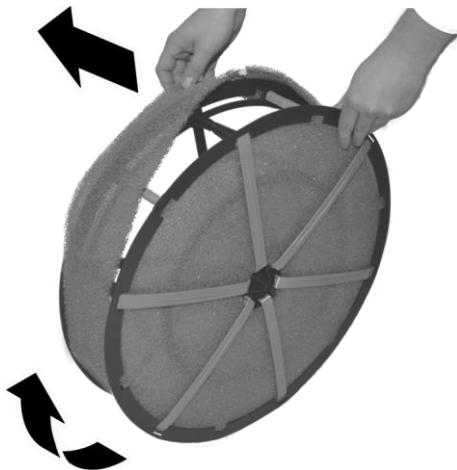

Fig. 22: Removing the outer evaporator filter
3. → Remove the outer evaporator filter (Fig. 22).